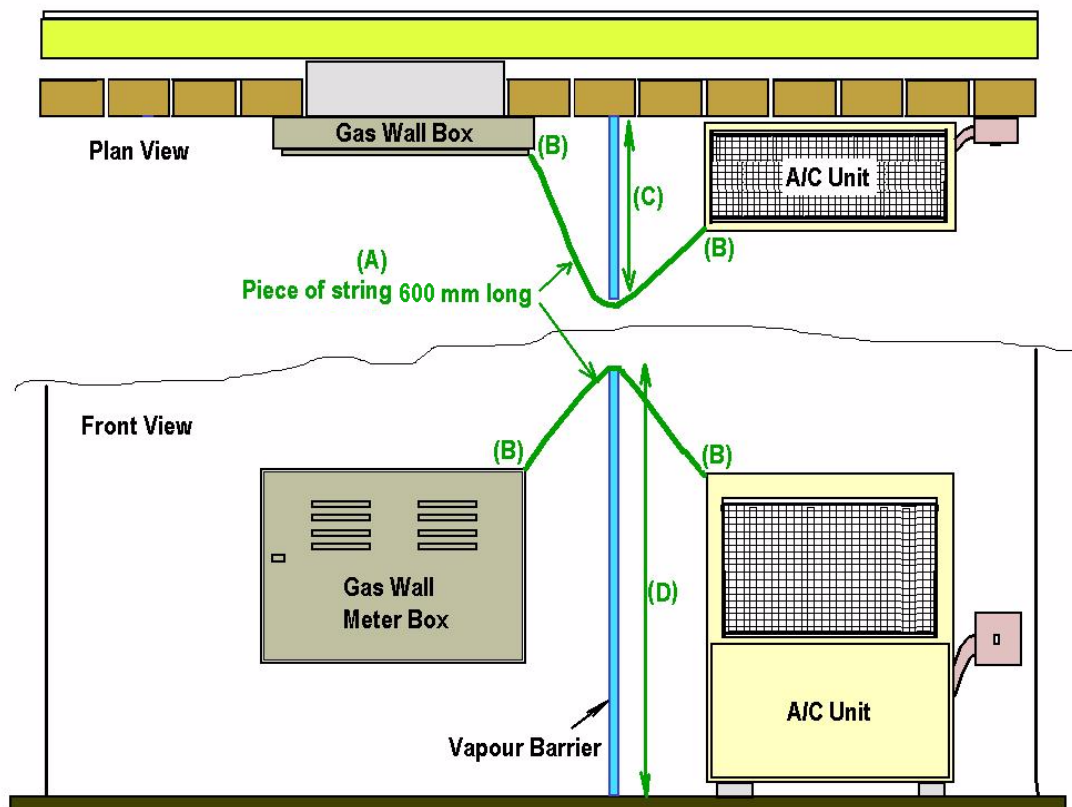

Figure 1
2. Measure and cut a piece of string to 600 mm length. (See A in Figure 1)
3. Tape the string ends to the nearest front corners of both the gas wall box and A/C compressor. (See B in Figure 1)
4. Gently pull the string outwards, horizontally away from the wall at the midpoint between the gas wall box and A/C compressor unit and measure back to the wall from the string line to give you the width of the vapour barrier. (See C in Figure 1)
5. Now gently pull the string upwards, vertically at the midpoint above the gas wall box and A/C compressor and measure from the string line down to the ground to give you the height of the vapour barrier. (See D in Figure 1)